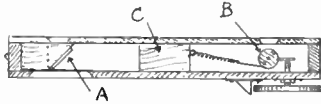

Fig. 1—Sectional view of the instrument
In Fig. 1 a longitudinal section of the instrument is shown, which will help to
At (A) in Fig. 1 a fixed mirror is to be fitted, at an angle of 45 degrees. A holder for this should be cut from hardwood to the shape given in Fig. 3